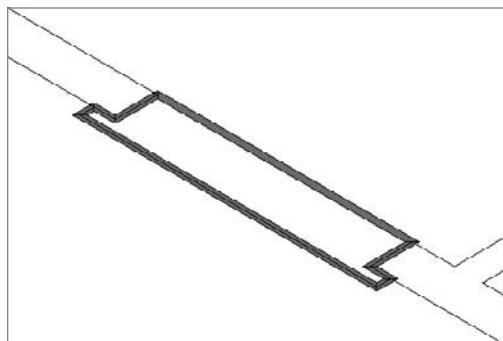

FIGURE 16.26 A polyline drawn around the perimeter of the threshold
3. Draw a polyline around the perimeter of the threshold using the Close option to make the last segment. For clarity only, the polyline is shown wider than necessary in Figure 16.26.